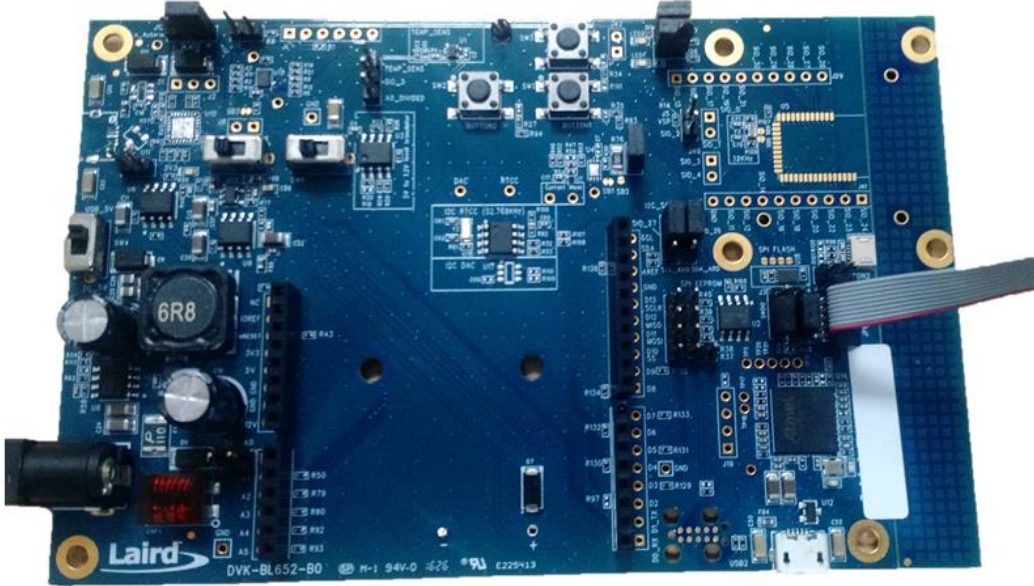

Figure 3: QPK-NRF5X programming board
1. Configure the QPK-NRF5X (the programmer board) as shown in Figure 3.